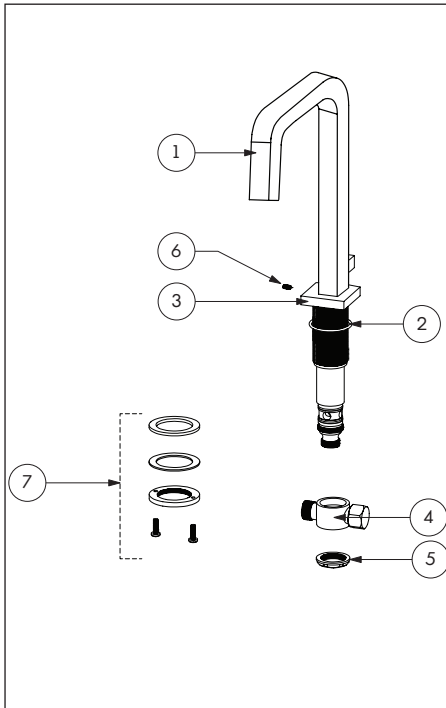

Fig.1
Remove the "T" seal (4) by removing the retaining ring (5). Assemble the spout (1) to the base (3) by tightening the retaining screw (6). Prepare the retaining assembly (7). Place the O ring (2). Fig. 1.
Retirer le joint en "T" (4) en dévissant l'anneau de retenue (5). Assembler le bec (1) à la base (3) en serrant la vis de retenue (6). Préparer l'ensemble de rétention (7). Placer le joint torique (2). Fig. 1.